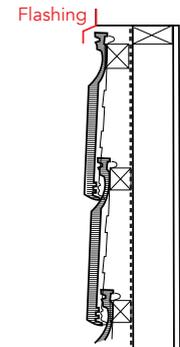

Figure 6: Below a Sill
- A flashing shall be provided at the base of the window sill frame where the window terminates and be dressed 100 mm over the top course of tiles (see Figure 6).